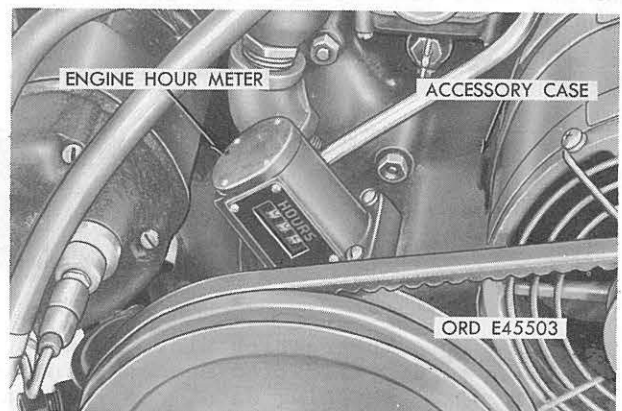

Figure 13. Location of engine hour meter - M274 vehicle.
c. Engine Hour Meter (M274 Vehicle). The engine hour meter for the M274 vehicle (fig. 13) is located on top of the crankcase accessory case behind the fan drive pulley. The meter is driven by the engine and records the number of hours engine has been operated.